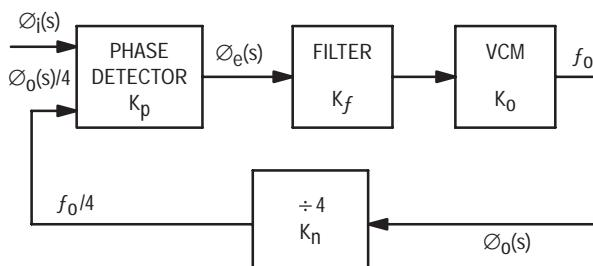

**Figure 5–3. One-Shot Timing Components**
The PLL consists of a digital phase detector (PD), an active loop filter, a VCM, and a divide-by-4 feedback path. Figure 5–4 shows the fundamental elements of the PLL with their gain constants. The basic PLL allows the output frequency  $f_O$  to be “locked-on” to the input frequency  $f_I$  with a fixed phase relationship and to track it in frequency. When “in lock” the inputs to the phase detector have zero phase error. The input frequency is referenced to  $f_O/4$ .